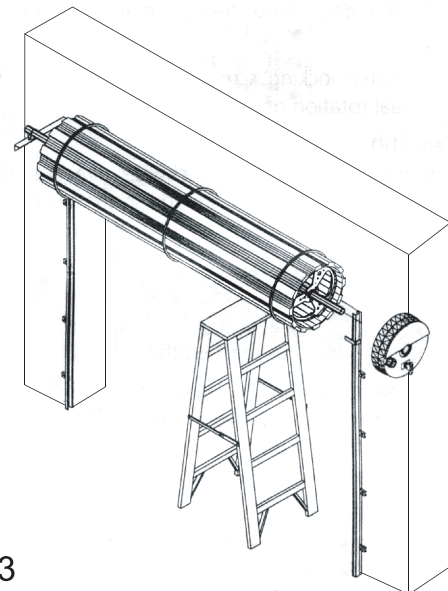
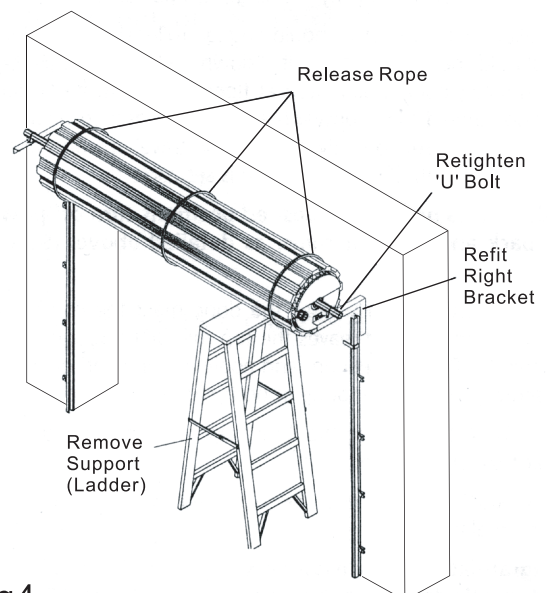

Fig3
Fig4
- Make sure the door supporting prop is secure. while the door is supported remove the right-hand wall mount bracket. (Fig. 3)
- Remove the geared motor (27) and motor spacer (28) from the packaging material. Align the spacer over the three motor mounting holes and insert the motor assembly between the spoke sections of the drum wheel. Align the assembly with the three counter sunk holes in the spoke section. Affix with screws supplied 3 X (6x25mm counter sunk) using an appropriate flat bladed screwdriver. (Ensure the motor assembly is securely fixed to the drum wheel before proceeding.)
- Remove the motor shaft screw and slide on the main drive gear (10), refit the shaft screw and tighten.
- Slide the Main Ring Gear (32) over the door axle and engage teeth with the motor drive gear.
- Slide main body (2) over door axle, make sure the manual release pin (23) is in manual position. Locate the contact brushes (25) into inner and outer slip ring (7,8).
- The Main Body should now be sitting flush up against the Ring Gear. Attach Split Ring (9) to Slip Ring extrusion and secure split ring self tapping screw. (6 3/8)
- Replace right hand side wall mount bracket. (Fig. 4)